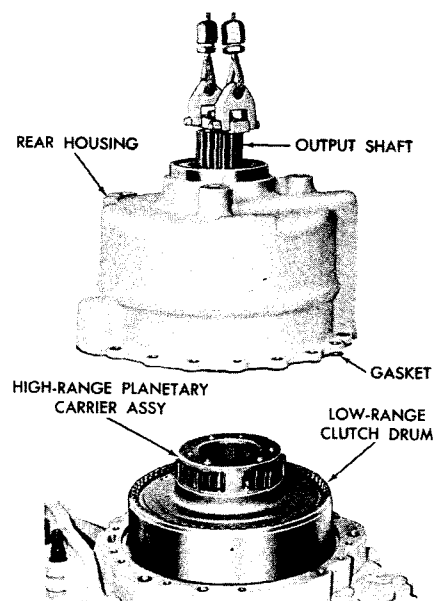

Fig. 5-41. Removing rear housing and attached parts
(2) Attach a lifting sling to the output shaft and remove the rear housing, high-range clutch, and output shaft as a unit (fig. 5-41).